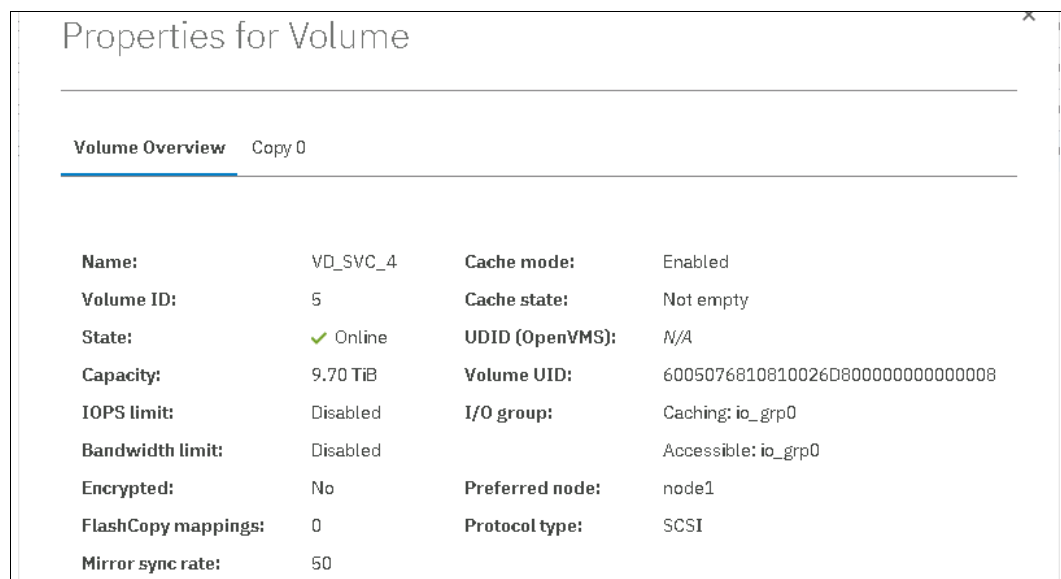

Figure 4-8 IBM FlashSystem volume details
In this example, the number is 0000000000000002, as shown in Figure 4-8.
1. From the back-end IBM FlashSystem side, check the Volume UID field for the volume that was presented to the virtualizer, as shown in Figure 4-8 on page 281.